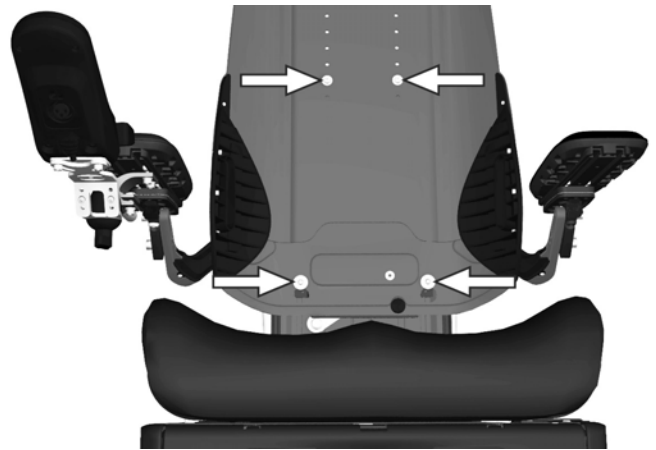

Figure 191. The lower backrest plate is secured by means of four locking devices.
1. Assemble the lower backrest plate by lining up the four "keyholes" on the locking devices and then sliding the plate straight down. See fig. 191.